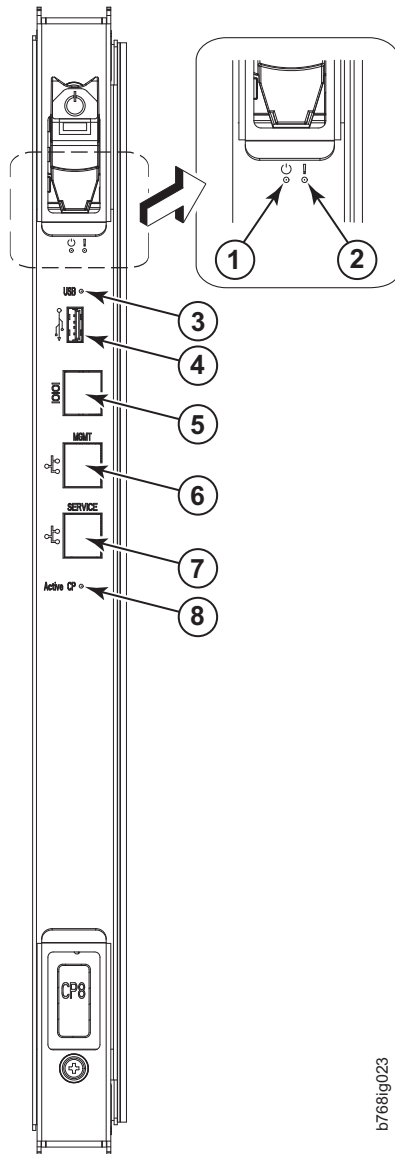

Figure 18. Control processor blade (CP8) components
1. Check the LED indicators on the CP blade (see Figure 18 on page 58). The LED patterns may temporarily change during POST and other diagnostic tests. For information about how to interpret the LED patterns, see Table 7 on page 59.
Figure 18 identifies the control processor blade (CP8) and its components.